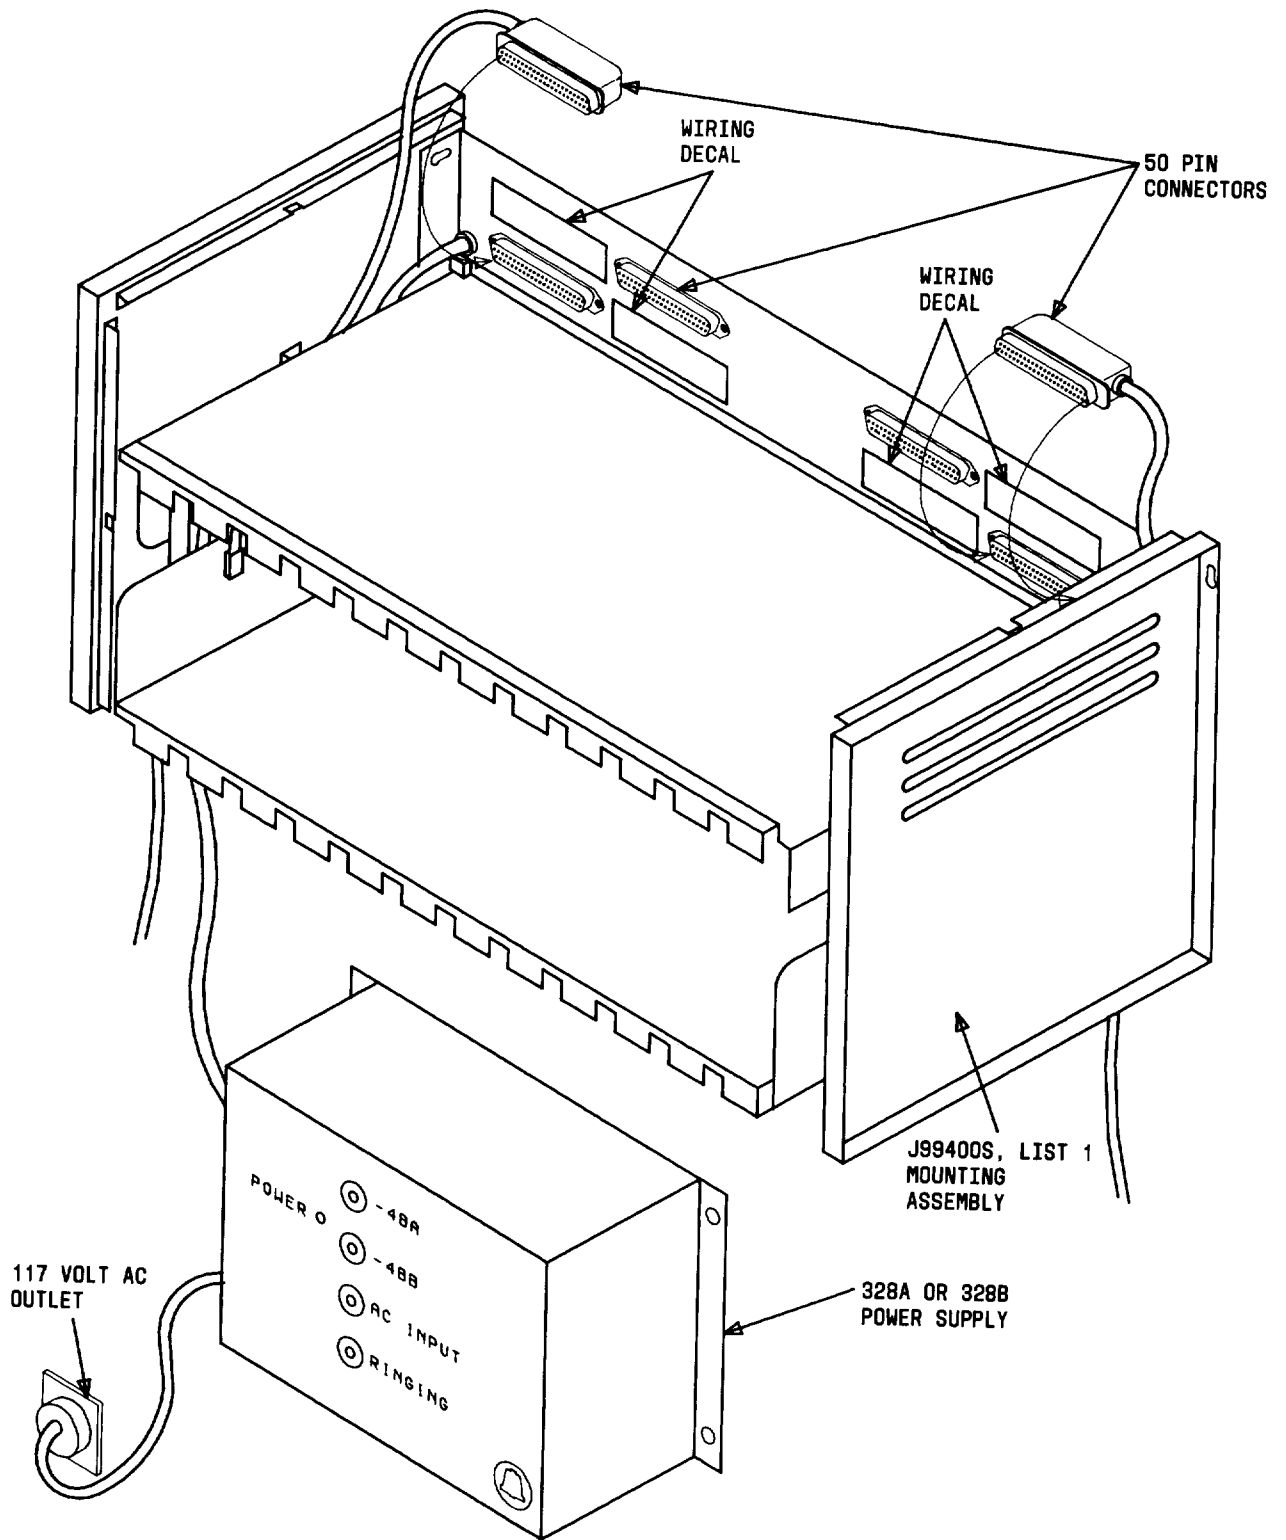

Fig. 3—J99400S Housing Assembly—Single-Module Arrangement for 12 MFT Circuits
3.01 The J99400S assembly consists of a single-module shelf arrangement which will accommodate up to 12 MFT circuits (transmission units, loop signaling extenders, combined function units, maintenance termination units, or impedance compensators). The J99400S assembly shown in Fig. 3 is available in combinations of the following list numbers:
3.05 The 328A power supply will accept commercial 117 volt ac input and will supply two -48 volt dc outputs (-48A and -48B). The 328A power supply has a 1.75 ampere circuit breaker on the 117 volt ac input and 1.75 ampere circuit breakers on each of the -48 volt dc outputs. The location of these circuit breakers and the POWER ON indicator is shown in Fig. 3. If a circuit breaker should trip, the center button will extend. The circuit breakers are reset by pushing this center button. If 20-Hz ringing is required, use of the 328B power supply/frequency
3.07 The 328B power supply/frequency generator will accept commercial 117 volt ac input and will supply two -48 volt dc outputs (-48A and -48B) and a 20-Hz ringing signal. The 328B power supply/frequency generator has a 1.75 ampere circuit breaker on the 117 volt ac input, a 1.75 ampere circuit breaker on each of the -48 volts dc outputs, and a 1.0 ampere circuit breaker on the 20-Hz ringing output. The location of these circuit breakers and the POWER ON indicator is shown in Fig. 3. If a circuit breaker should trip, the center button will extend. The circuit breakers are reset by pushing this center button.
4.06 Cabling to the J99400S housing is routed up through the bottom of the housing to the 50-pin ribbon type connectors at the upper rear of the housing as shown in Fig. 3. Typically, cabling from the network interface is routed to the A-side connectors (J13 and J14) and connected according to circuit function as indicated on the decal adjacent to the respective connector. The cabling to the central office is typically connected to the B-side connectors (J15 and J16) as indicated on the decal adjacent to the connectors. Additional installation instructions are given in Section 332-610-204.